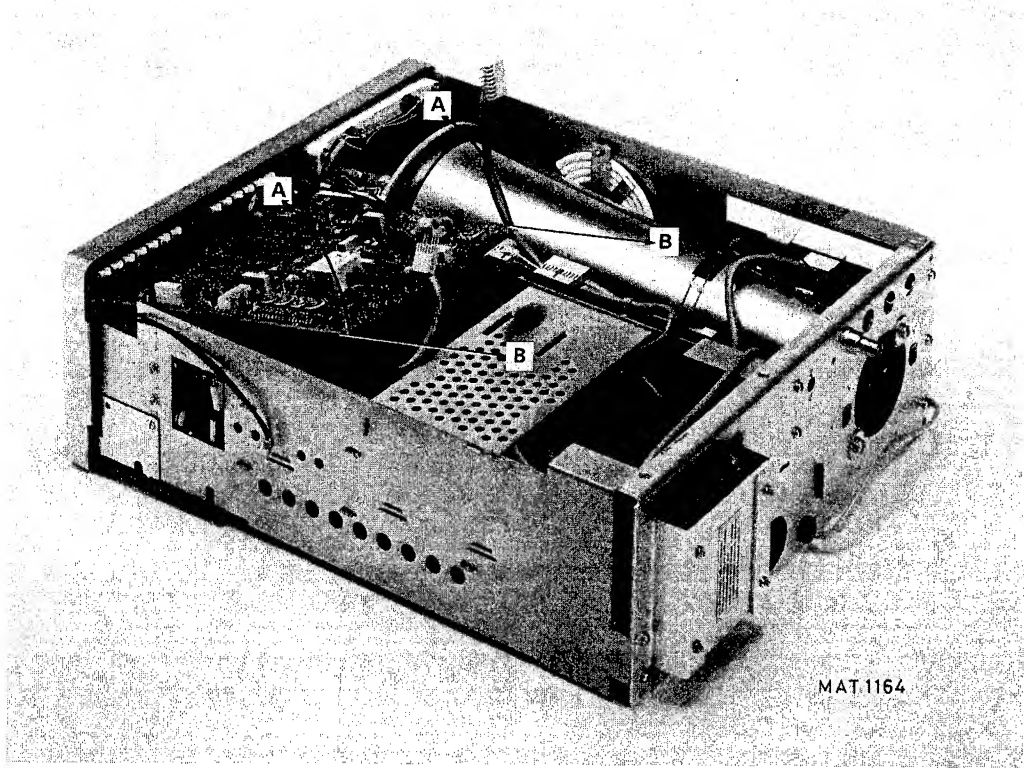

Fig. 6.3. Removal of time-base unit
- Lift the unit in the direction indicated in fig. 6.3.A.
- Take the unit out of the instrument in the direction indicated in fig. 6.3.B.